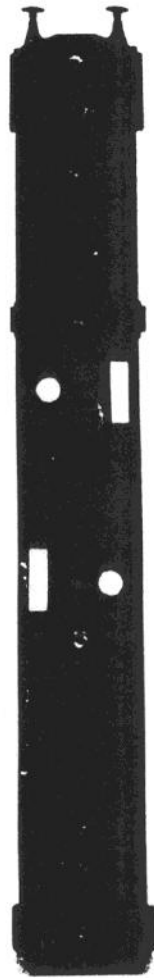

Fig. 2. PLASTIC CARD INSERTS
- Once the cutting and paring is complete and the truss rods and underside are smooth it is advisable to fill the holes in the floor with suitable size pieces of 0.040" or 0.030" plasticard fixed flush with the underside of the underframe using solvent adhesive, see Fig.2. *Care: Use the solvent adhesive sparingly otherwise you may distort the underframe.*